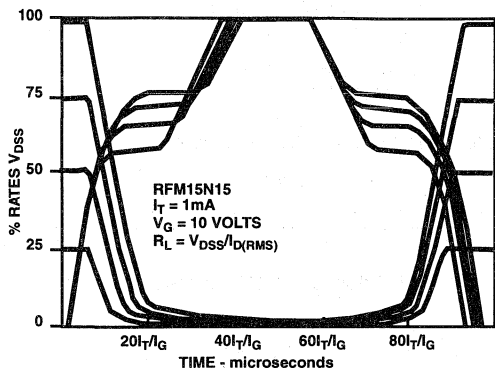
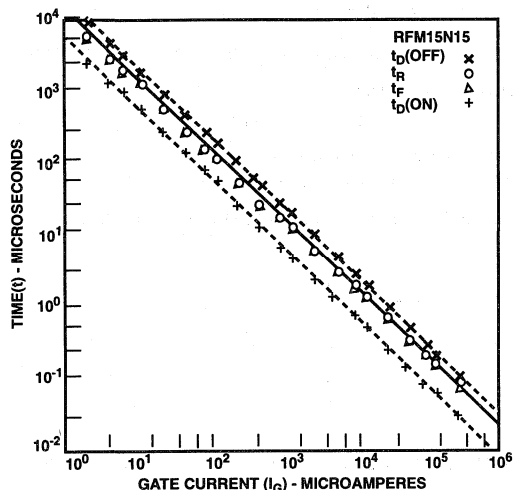

FIGURE 9. NORMALIZED RFM15N15 SWITCHING WAVEFORMS FOR CONSTANT GATE-CURRENT DRIVE.
FIGURE 12. FIVE DECADES OF LINEAR RESPONSE
Figure 9 is such a plot for the RFM15N15 power MOSFET. With such a plot, a designer can estimate device switching performance under any resistive gate/drain conditions.
**Using the Characterization Curves, Figure 9**
The switching-time range over which the characterization can be applied is very impressive. For gate currents of the order of microamperes, device dissipation is the limiting factor. For gate currents of the order of amperes, the device response will be slowed by gate propagation delay. This delay, of course, degrades the linear switching relationship to gate current. However, as Figure 12 graphically shows, the characterization is valid across five decades of gate current and switching time, allowing all but a very few switching applications to be described by the characterization curves of Figure 9.